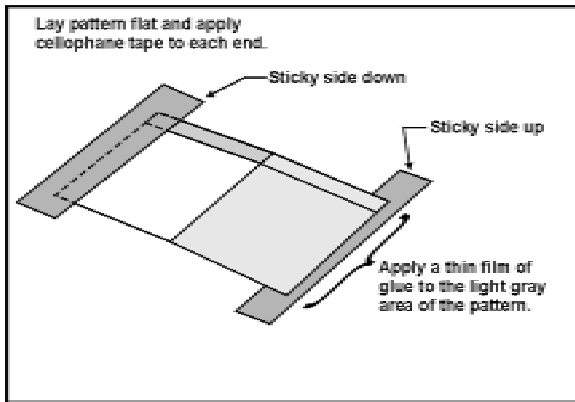

Figure 4
- Apply two lengths of cellophane tape to the ends of the Engine Tube pattern as shown in **Figure 4**, and described here. Each piece of tape should be an inch or two longer than the pattern is wide, so that there is ample overhang at each end of the tape. With the pattern printed side up, place one length of tape, sticky side down, at the end with the white background that has the area identified as "Second Glue Area". This tape should overhang the end of the pattern by half the width of the tape. Fold over $\frac{1}{4}$ " of the tape ends. Place the second length of tape, sticky side **UP**, at the other end, overhanging the end of the pattern as before and fold the ends over. Now, apply a thin film of glue to the entire light gray area identified as "First Glue Area" then **quickly** move onto Step 5.